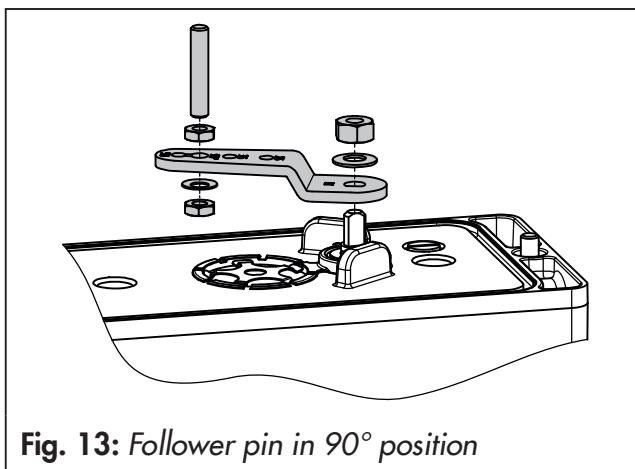

Fig. 13: Follower pin in 90° position
1. Fasten the adapter block (1) to the actuator's NAMUR interface using the four fastening screws (2).
2. Mount the follower wheel (3) onto the actuator shaft. Use the matching shaft adapter (see Table 6 on page 26).
3. Place the adapter bracket (4) onto the adapter block (1) and fasten it using the fastening screws (5).
4. Insert and fasten the follower pin in the 90° position on the positioner's lever (see Fig. 13). Only use the longer follower pin included in the mounting kit.
5. Align the positioner on the adapter bracket (1) in such a way that the follower pin engages into the actuator's follower wheel (3).
6. Fasten the positioner onto the adapter bracket (4) using the fastening screws (6).
2. Mount the follower wheel (3) onto the actuator shaft. Use the matching adapter (see Table 6 on page 26).
4. Insert and fasten the follower pin into the 90° position on the positioner's lever (see Fig. 13 on page 58).
7. Mount the Type 3710 Reversing Amplifier (7) together with the two guide bush-